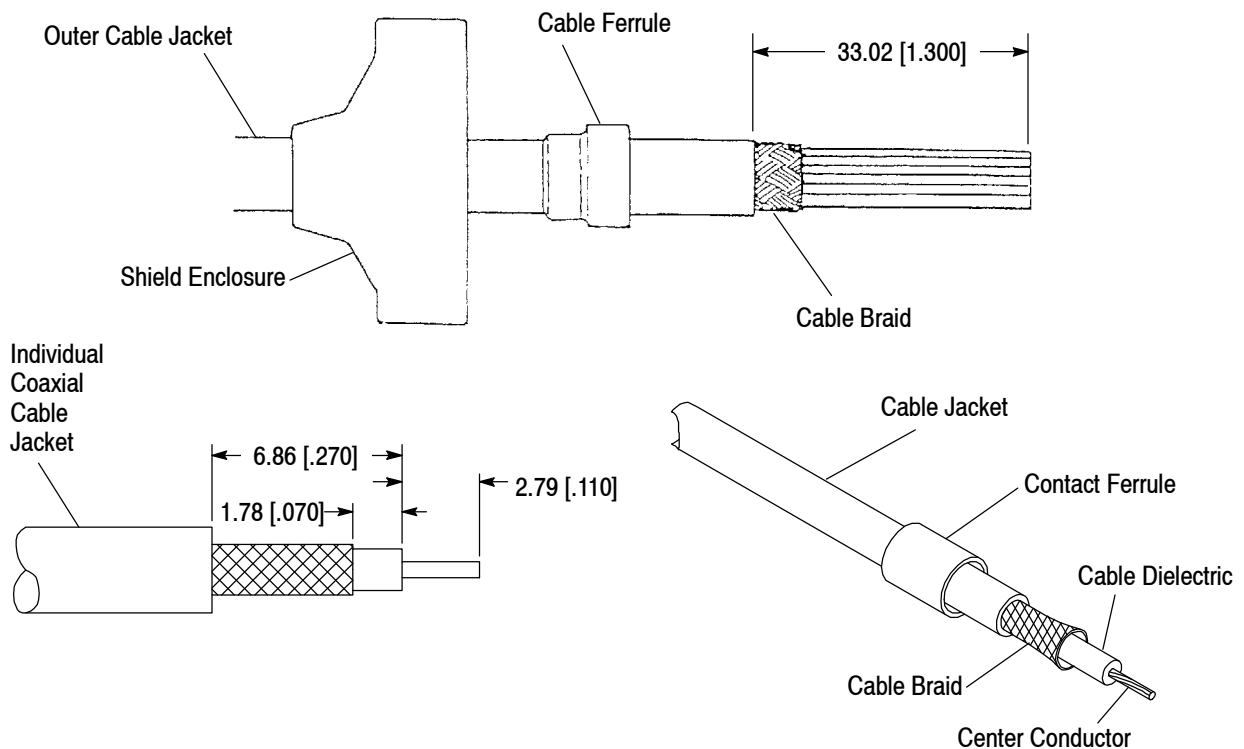

Figure 4
2. Strip the cables to the dimensions shown in Figure 4.